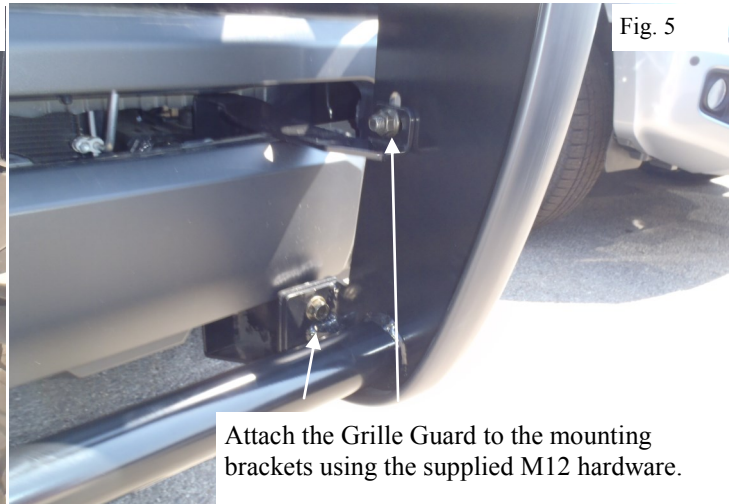

Fig. 5
8. With assistance, loosely attach the Grille Guard to the Mounting Brackets using the supplied M12 hardware (Figure 5).